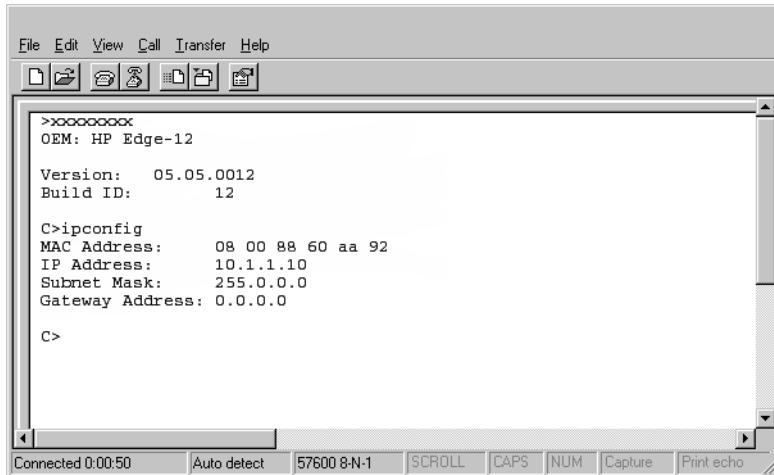

Figure 9: HyperTerminal window
9. At the C> prompt, enter ipconfig. The HyperTerminal window displays (Figure 9). The configuration information is listed below: